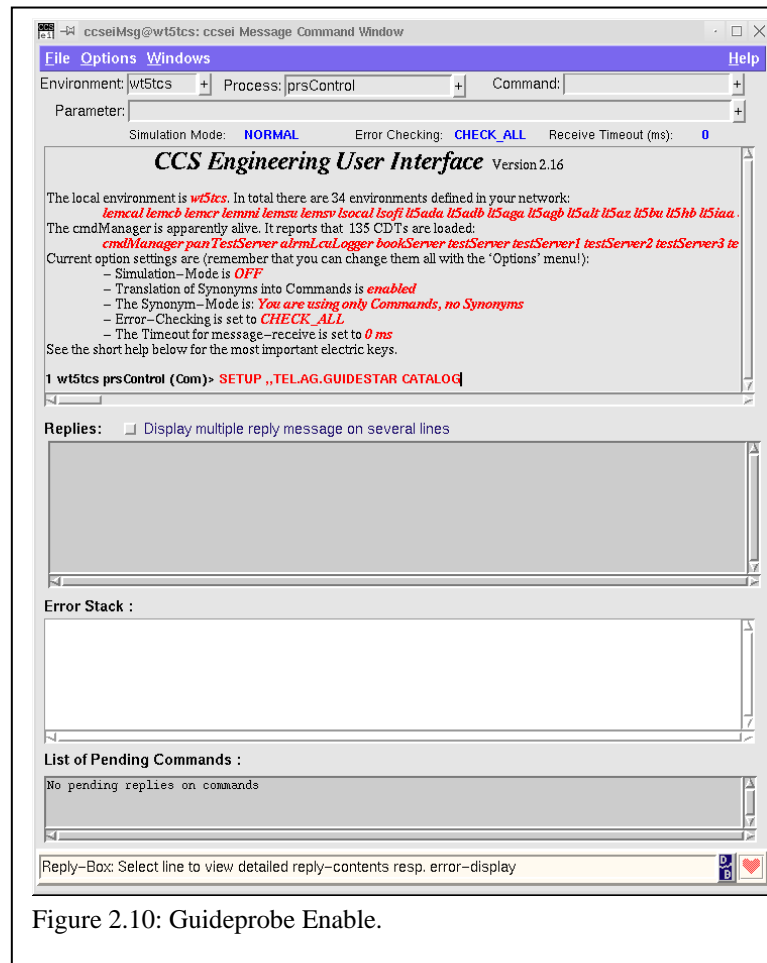

Figure 2.10: Guideprobe Enable.
1. Enable guide probe using ccseiMsg (Figure 2.10), select: